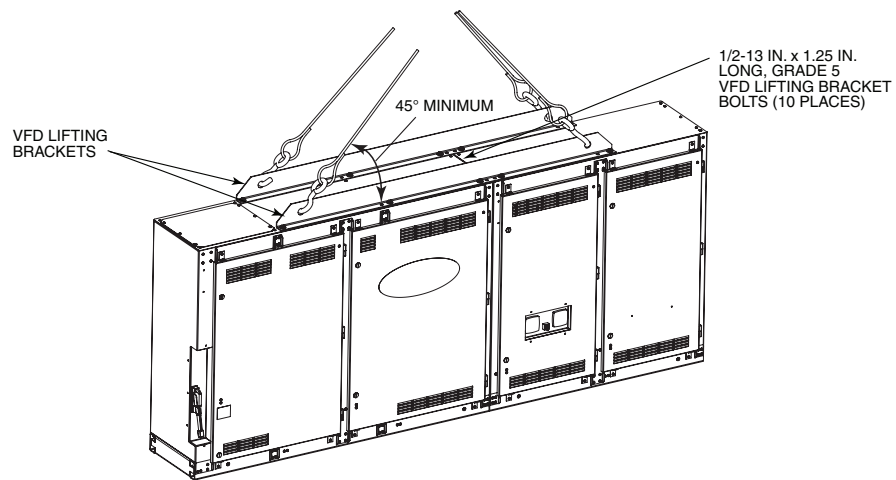
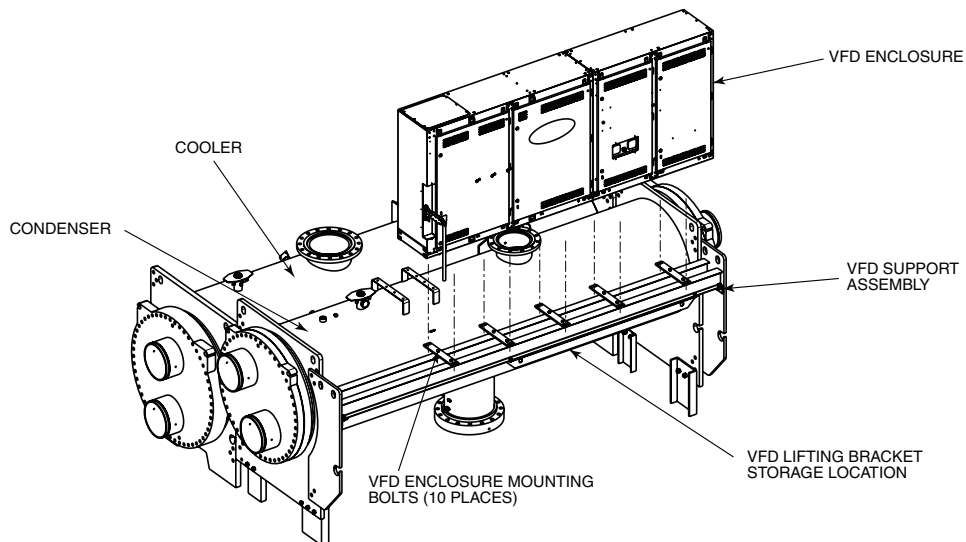

Fig. 19 — 1169A VFD Enclosure Lifting Points
Fig. 21 — 1169A VFD Enclosure Installation
2. Using an overhead or portable hoist (minimum 2 ton rated capacity), attach a free-fall chain to the sling secured drive. Take up any slack in the chain. See Fig. 19.
NOTE: If overhead space is limited following reinstallation of the VFD enclosure, the VFD enclosure lifting brackets (Fig. 19) may be removed from the top of the VFD and fastened to the bottom of the VFD support shelf (Fig. 21). Reinstall the 1/2-13 x 1.25 in. long grade 5 bolts into the top of the VFD enclosure to prevent debris from falling into the VFD.